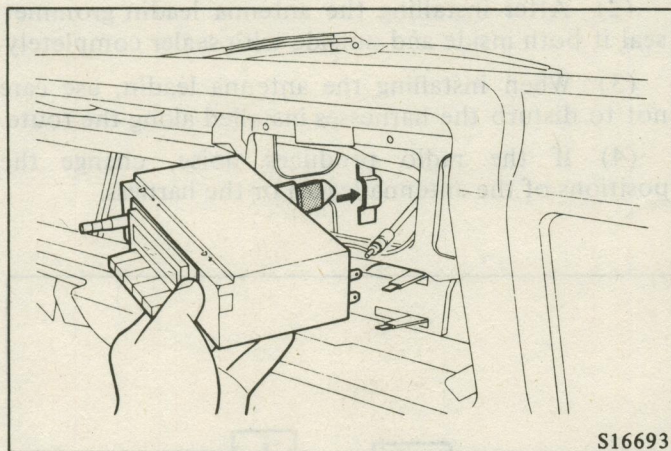

Fig. 155 Radio Stay and Holding Bracket
(2) Make sure the radio mounting stay has been fitted into the hole in the reinforcement, before installing radio set. (Fig. 155)